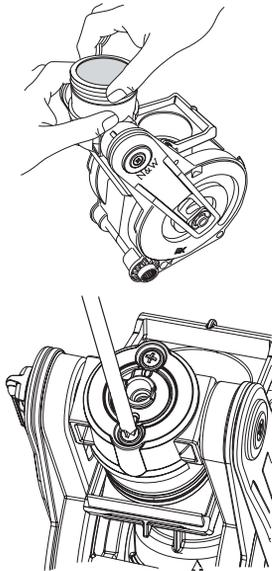

Fig. 41
- Fit a new metal filter on green ring and then turn the ring on piston until it stops. (fig. 41 - a) Take care that the letter „F“ engraved on the filter is on the outside face (Fig. 41 - b)